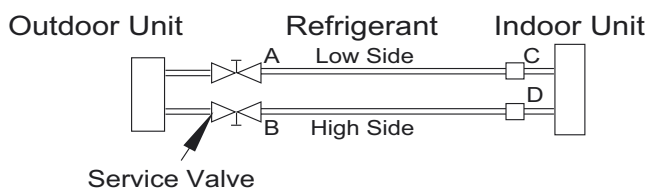

Fig. 32 —Service Valve
3. Fully open the low side of manifold gage (see Fig. 32).